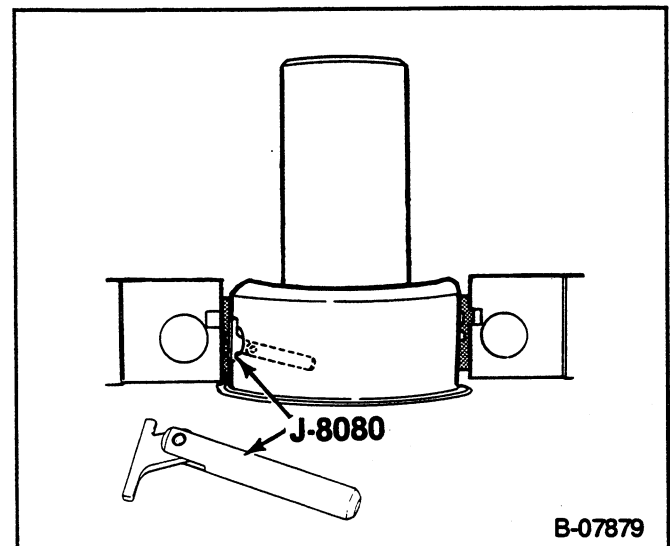

Figure 33—Removing the Main Bearing Insert
↔ Remove or Disconnect (Figure 33)
- Insert J-8080 into the crankshaft oil hole (figure 33).
↔ Install or Connect (Figures 33 and 34)
- Insert tool J-8080 into a crankshaft main bearing oil hole (figure 33).